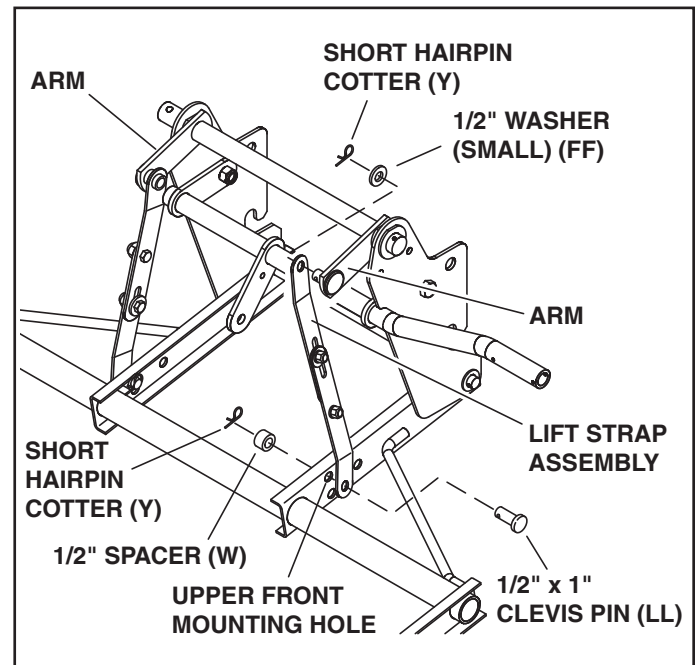

FIGURE 5
STEP 6: INSTALL LIFT STRAP ASSEMBLIES (SEE FIGURE 5)
- Turn the lift strap assemblies as shown. Install each lift strap assembly to an arm of the lift bracket assembly and then secure with a small 1/2" washer (FF) and a short hairpin cotter (Y).
- Position the lower end of each lift strap assembly to the outside of the lift frame. Fasten to the upper front holes in the lift frame using a 1/2" x 1" clevis pin (LL), 1/2" long spacer (W) and short hairpin cotter (Y) for each assembly.